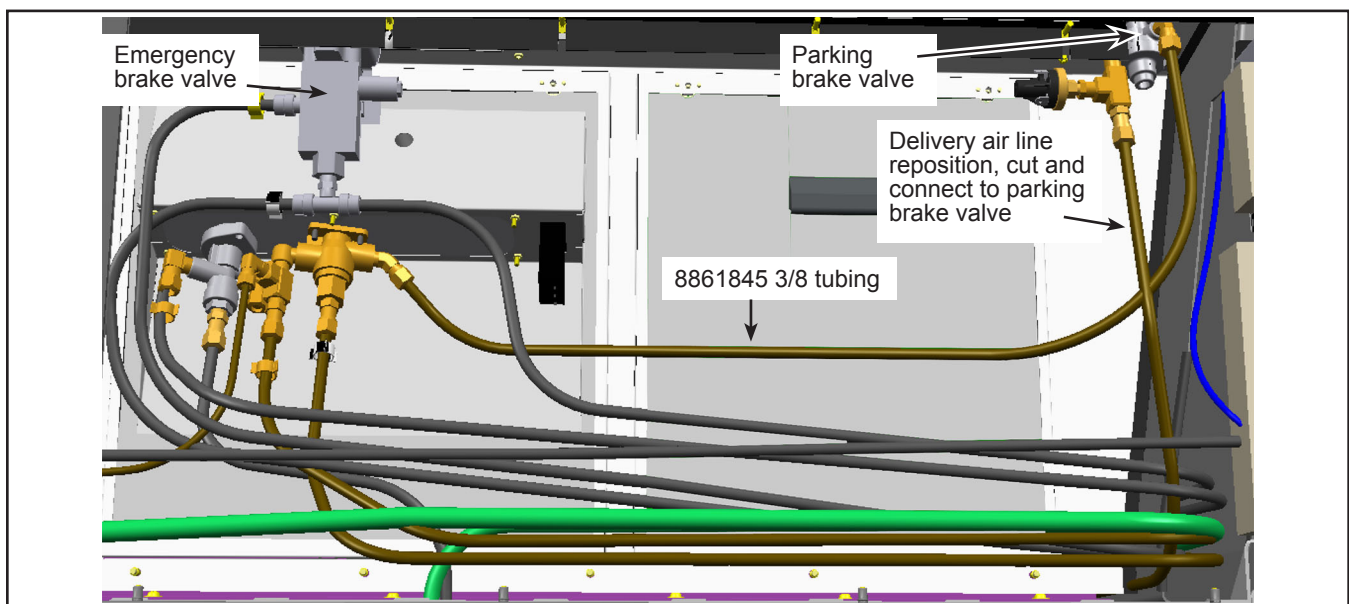

Figure 3 - Rear View of the New installation of Parking Brake Valve
- 1.11. Connect the 3/8" tubing 8861845 using a compression ring G5011423 on the emergency brake release valve. See Figure 3.
- 1.12. Connect the other extremity of the 3/8" hose 8861845 using a compression ring G5011423 to the Parking brake valve. See Figure 3.
- 1.13. Install the Parking brake valve in the hole drilled in the adjustment bracket, using an internal toothed star washer N26228 between the nameplate and the valve nut. See Figure 3.
- 1.15. Connect the delivery air line on the parking brake valve using a compression ring G5011423. See Figure 3.